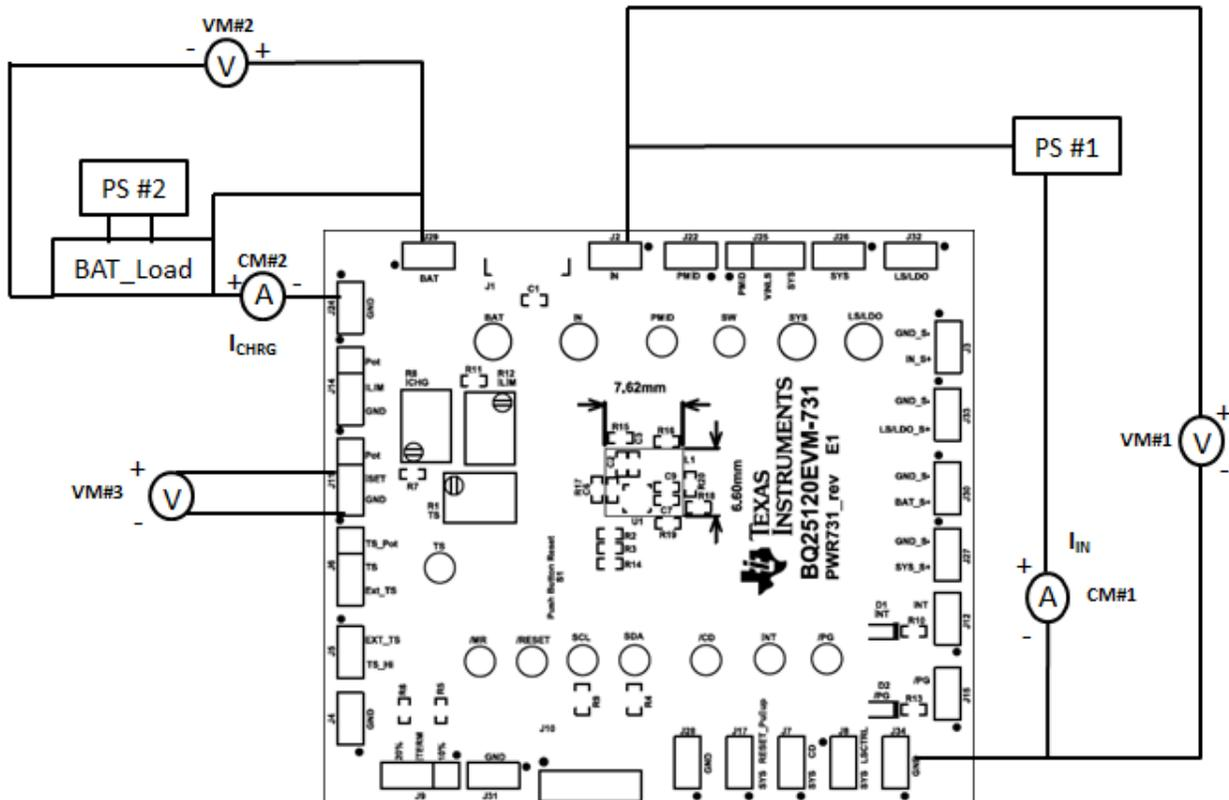

Figure 4. Test Setup for TIDA-00761 (bq25120EVM-731)
2.3.2 Connect EV2400 Interface board to the EVM (as is shown in Figure 4)